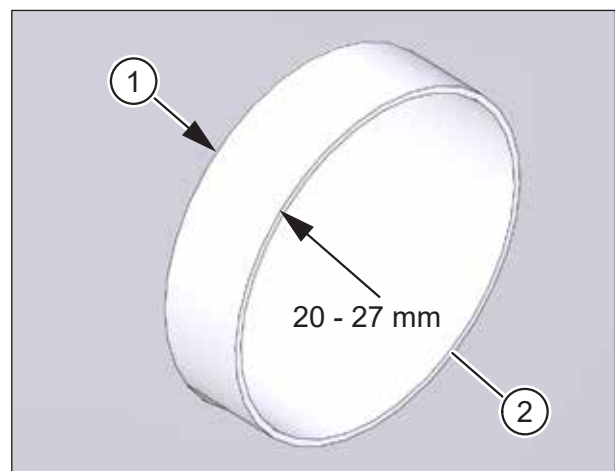

Fig. 20: Checking the ventilation pipes
- ▶ Check that the ventilation pipes protrude 20 - 27 mm beyond the external plaster (see item 1 in Fig. 20).
- ▶ Check that the cut surfaces of the ventilation pipes have been deburred (see item 2 in Fig. 20).